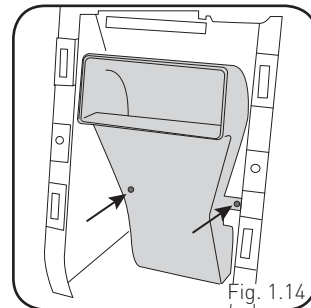

Fig. 1.14
- Remove 2 screws securing rear air vent duct and remove the vent. (Fig. 1.14)